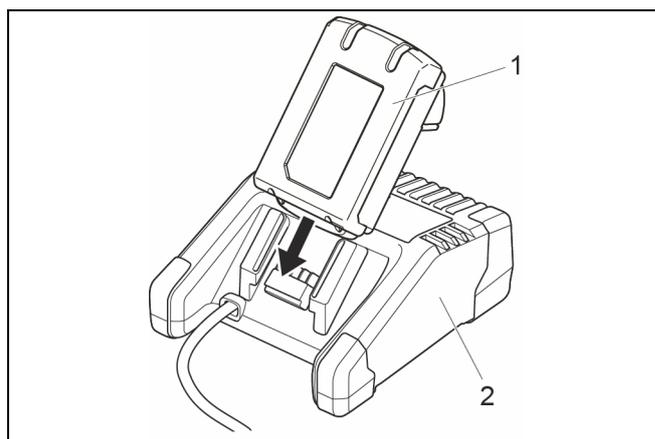

Fig. 10: Charging the battery
1. Connect charger (Fig. 10/2) to power supply.
2. Attach battery (Fig. 10/1) to battery charger.
3. Remove battery (Fig. 10/1) from the battery charger as soon as it has reached the desired level of charge.
4. After charging, disconnect the battery charger (Fig. 10/2) from the power supply.